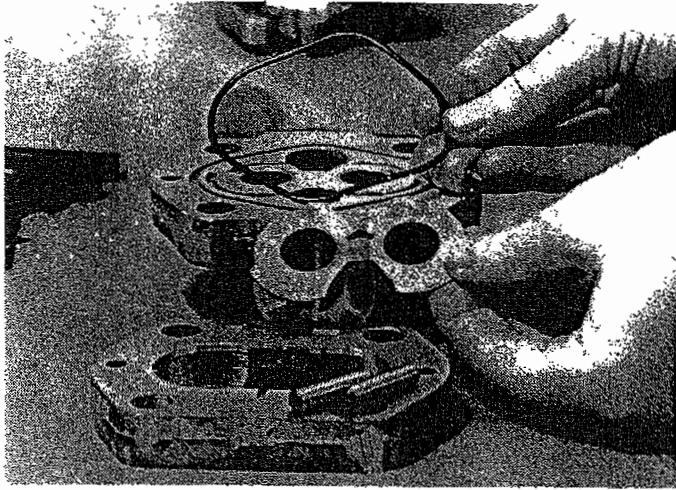

Fig. 9
10. Remove rear thrust plate (Item 6), dowels (Item 5), and o-ring (Item 4). (Fig. 9)